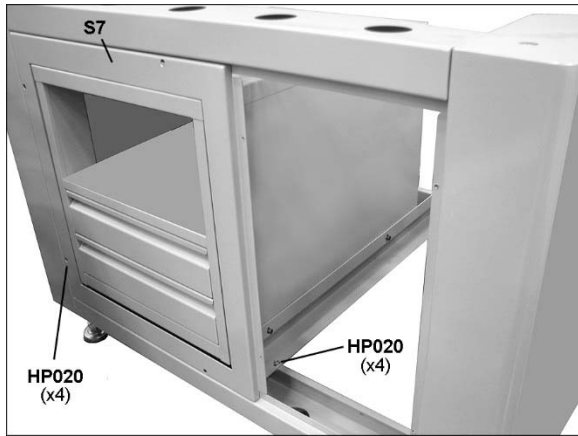

Figure 7-13
9. Install open side panel (S7, Figure 7-13) and tighten screws.
10. Place storage cabinet with supports into stand so it is flush with side panel. See Figure 7-13. Tighten screws.